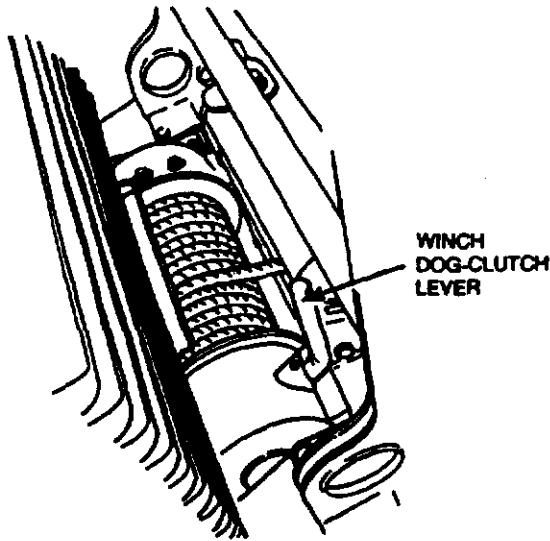

Figure 2-7 Winch Dog-Clutch Operation
- a. Ensure that the engine is switched OFF, then set the winch dog-clutch lever to the vertical position (see Fig. 2-7) to disengage the dog-clutch. Reel out the winch rope as required.